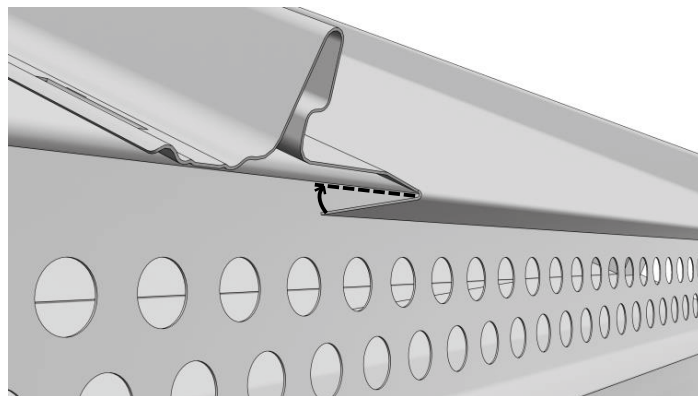

Fig. 29
- Tighten the panel fold-up by keeping the 1cm expansion gap mentioned before (Fig. 29)